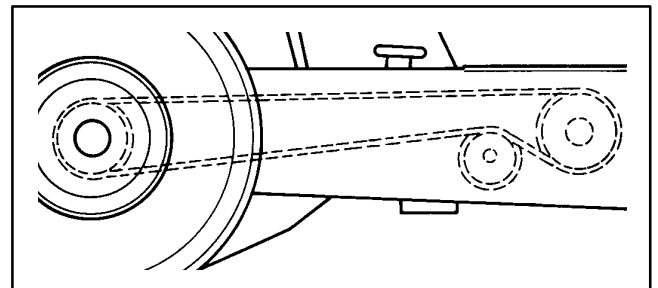

Figure 3
5. Install greased outer bearing cone, tab washer (item 13), and jam nut (item 10) onto shaft.
10. Position drive chain to hub sprocket (Fig. 3). Install master link to chain. Lubricate chain.
11. Install chassis guard (item 28 or 30) and sprocket guard (item 3) to machine.
12. While holding idler sprocket, remove cap screw (item 21), lock washer (item 20), flat washer (item 22) and special nut (item 29) and then install idler cover (item 23). Reinstall cap screw, washers and special nut. Make sure that special nut is correctly positioned in slot in frame.
14. Install rear wheel assembly with valve stem facing out. Secure wheel to machine with four (4) lug nuts. Torque lug nuts from 65 to 90 ft-lb (88 to 122 N-m).